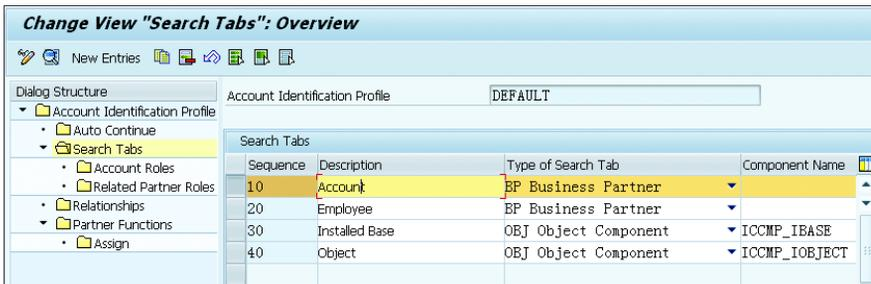

Figure 9.18 Search Tabs
4. Figure 9.18 shows the SEARCH TABS that are available on the ACCOUNT IDENTIFICATION screen. As shown, there are five tabs available: DETAILS, ACCOUNT, EMPLOYEE, INSTALLED BASE, and OBJECT). If your business scenario doesn't require IBASE and OBJECT tabs, you can remove the configuration as shown in Figure 9.18.